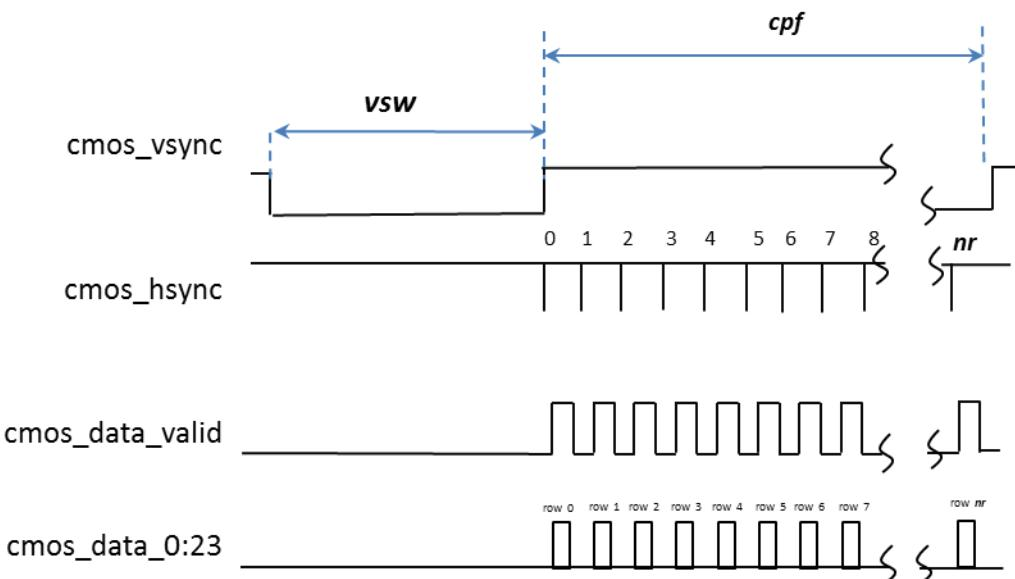

Figure 34: Frame Timing of the CMOS Output Channel
2. Each frame period consists of three distinct sections, as illustrated in Figure 34: